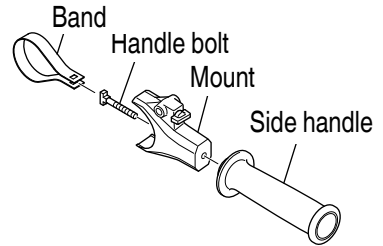

Fig. 13
(1) Turn the side handle to dismantle. (Fig. 13)